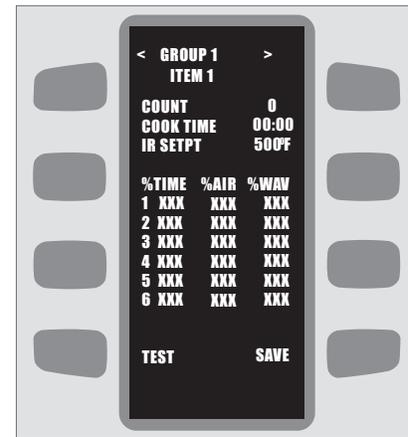

FIGURE 9: Edit Groups
4. Use the “Up and Down Arrows” Keys to navigate through a Recipe. Use the Keypad and “Enter” Key to alter any of the following three (3) parameters: (See Figure 9.)